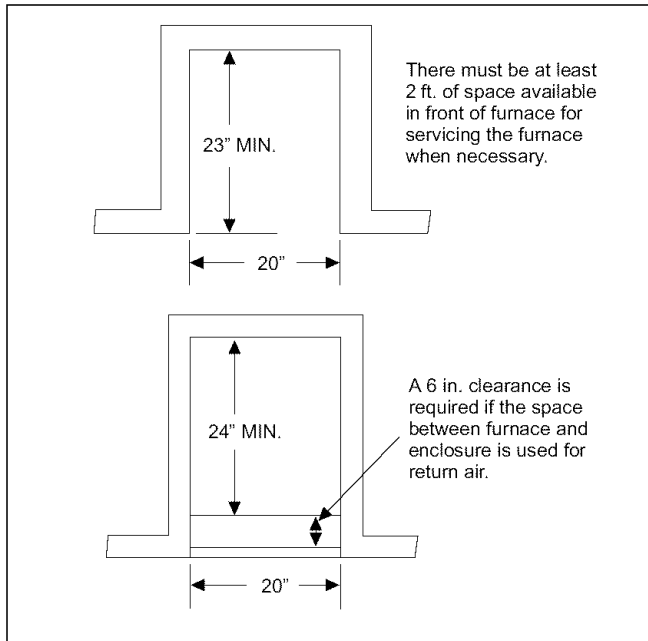

FIGURE 2 : ALCOVE & CLOSET CLEARANCES
The return air opening can be located in a closet front door or a sidewall above the furnace casing, or in a louvered door on the furnace. If opening for the return air is located in the floor, side walls or closet door anywhere below furnace casing height, 6 inches minimum clearance must be provided on the furnace side where return is located to provide for proper air flow. See Figure 2. The 6 " minimum clearance is not required if there is a return grille installed above the furnace height. This return grille cannot start more than three feet above the furnace height.
2. A minimum of six (6) inches should be maintained between the furnace and closet door when door is used for return air. See Figure 2.
3. Two (2) feet of space must be available in front of furnace for future servicing (blower or element removal, furnace removal, etc.).